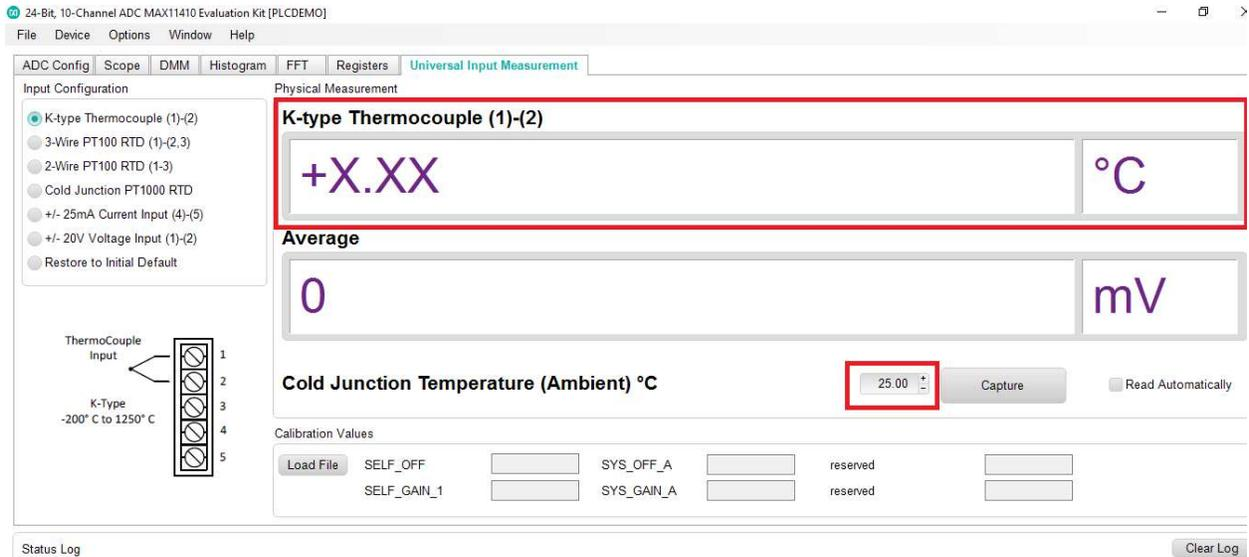

Figure 9
- h. You can see that the reference temperature measured in previous configuration (cold Junction) is updated here as shown in Figure 9.